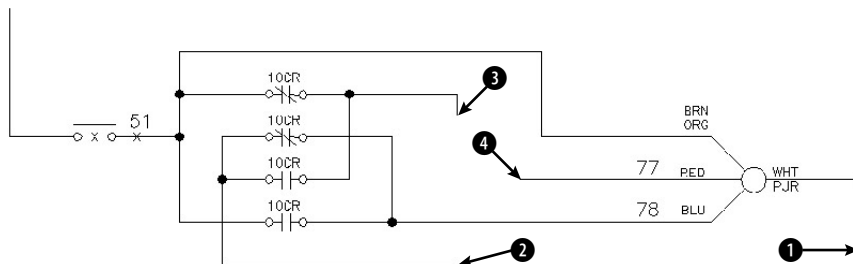

Figure 10-20: An electrical schematic.
2. Save the file as **ab10-06.dwg** in your AutoCAD Bible folder. It looks like Figure 10-20.
3.  Choose **Extend** on the **Modify** toolbar. At the **Select objects:** prompt, pick the line at **1** in Figure 10-20 and then press **Enter**.
4. At the **Select object to extend or shift-select to trim or [Project/Edge/Undo]: prompt**, pick the line at ❷ in Figure 10-20. Press Enter to finish selecting objects. The command extends the line.
5. Repeat the EXTEND command. At the **Select objects: prompt**, pick the lines at ❸ and ❹ in Figure 10-20 and then press Enter.
7. Pick lines ❸ and ❹ in Figure 10-20 again at the points shown. The lines extend to meet. Press Enter to end the command.